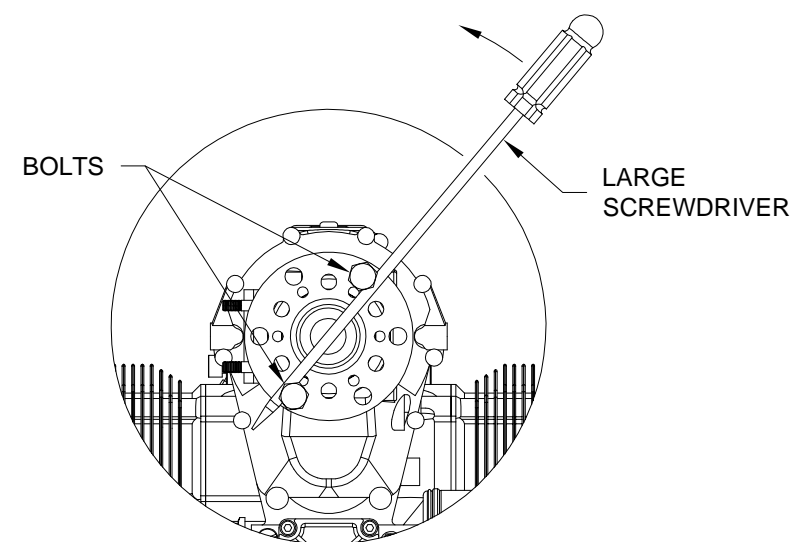

FIGURE 2: ROTATING CRANKSHAFT
Step 2: Insert two large bolts in holes clocked approximately 180 degrees apart in the propeller flange as shown in Figure 2. Remove one spark plug per cylinder to make rotating the crankshaft much easier. Place a large screwdriver or other lever between the bolts and slowly rotate the crankshaft CCW until one of the trigger cams aligns with the upper trigger coil. See Figure 3.